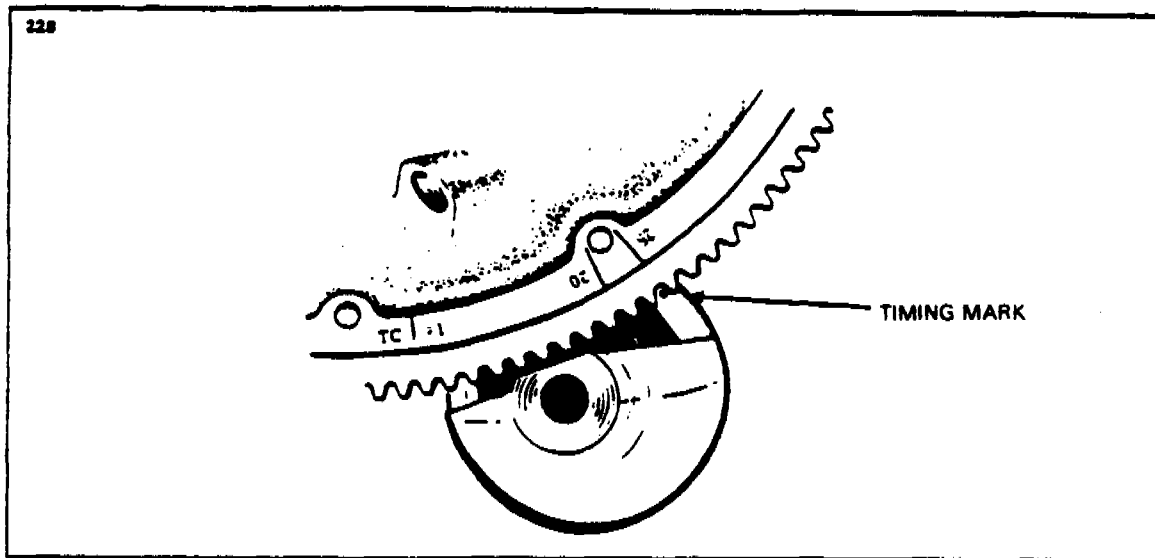

FIGURE 7-15. ENGINE TIMING MARKS
- b. Remove the top spark plug from No. one cylinder. Place the thumb of one hand over the spark plug hole and rotate the crankshaft in direction of normal rotation until the compression stroke is reached. The compression stroke is indicated by a positive pressure inside the cylinder tending to lift the thumb off the spark plug hole. In this position both valves of No. one cylinder are closed. Turn the crankshaft opposite to its normal direction of rotation until it is approximately 35 degrees BTC on the compression stroke of No. one cylinder. Rotate the crankshaft in its normal direction of rotation until the 25 degrees mark on the back of the starter gear and the crankcase parting surface are aligned, or the marks on the front of the starter ring gear and the drilled hole in the starter housing align. (Refer to Figure 7-15.)